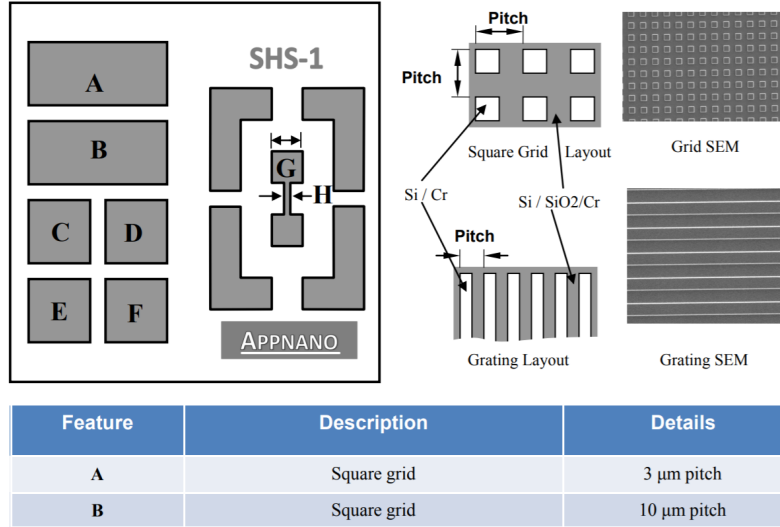

Figure 31: Calibration sample schematic
1. Perform a large enough topography scan of a clean area in Feature B region of the calibration sample. This region contains square pits with 10  $\mu\text{m}$  lateral pitch and 102 nm vertical depth (Fig. 31), so the scan needs to be  $> 20 \mu\text{m}$  to cover multiple periods (See Fig. 14 for an example). It is helpful to rotate the sample such that the grid is aligned with the scan X/Y direction. Pay attention to Scan Rotation.